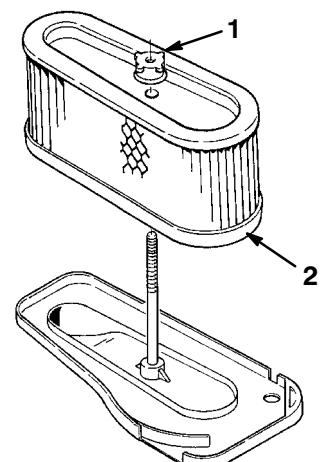

Figure 26
5. Unscrew the rubber nut and remove the paper element (Fig. 26).
2. Slide the air cleaner assembly onto the long rod. Now screw the rubber nut finger-tight against the air cleaner (Fig. 26).